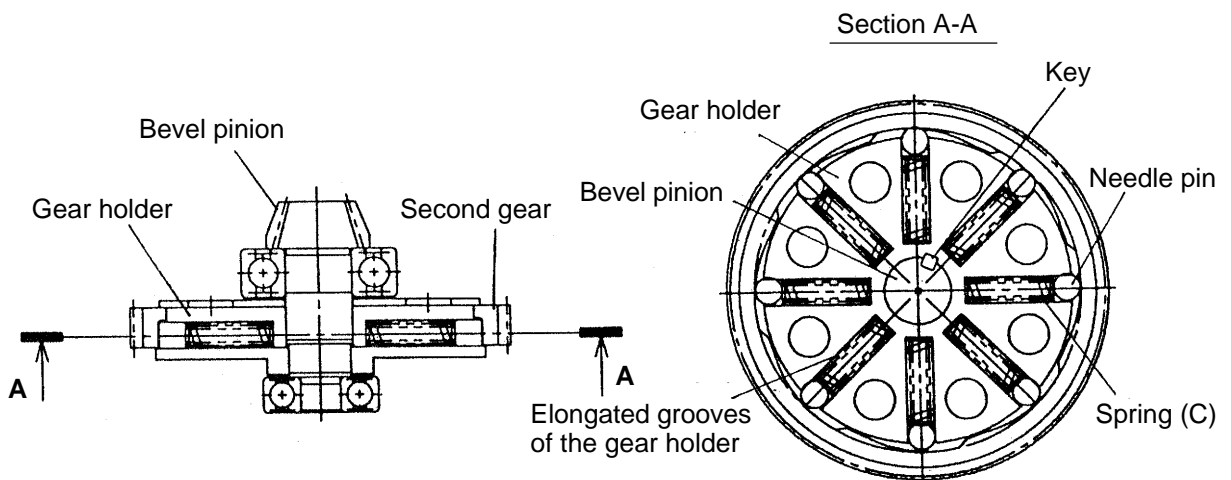

Fig. 11
The slip mechanism is described below with reference to Fig. 11. The bevel pinion and the gear holder are coupled together by the key and press-fitting. The springs (C) and the needle pins are housed in elongated grooves of the gear holder. The needle pin is pressed against the inner face of the second gear by the springs (C) to allow idle rotation of the second gear relative to the gear holder. When an excess torque is exerted on the bevel pinion shaft, the needle pin is raised upon the projection of the second gear against the load of the springs (C) to allow idle rotation of the second gear. With this arrangement, the clutch slips when an excessive torque is applied to the working tool as when the drill bit contacts steel bar/wire in the concrete, protecting the operator from unexpected motion of the side handle.